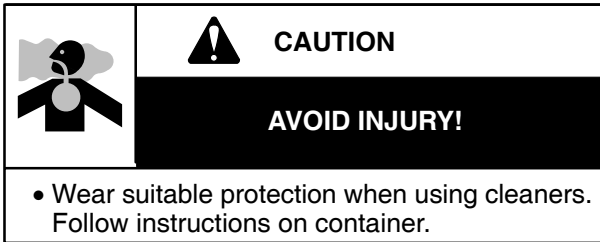

**Fig. 50**
2. Install 1/4" x 20 Nut #92278 (2) and Washer #224061 (3) from #19332 Tool Kit onto screw, **Fig. 50**.
3. Place a 1/4" drive 9 mm (3/8") socket (4) over seat body.
5. Continue turning until seat body is removed. Remove fuel inlet seat (5).